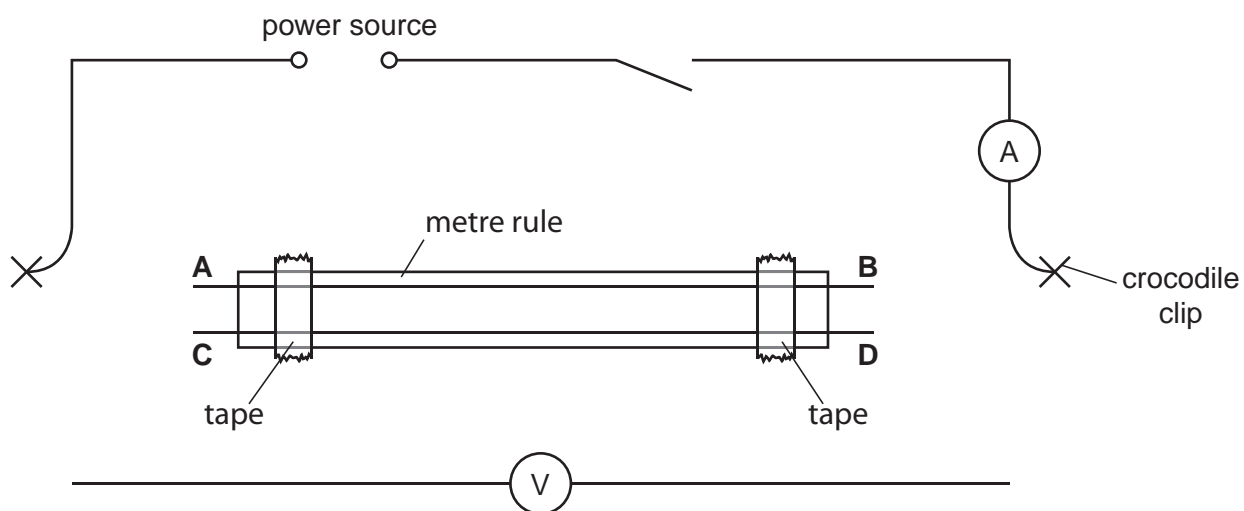

Fig. 3.2
- (vi) Sufficient connecting leads to set up the circuit shown in Fig. 3.2.
- (vii) Two crocodile clips connected as shown in Fig. 3.2.
2. The apparatus must be set out for the candidates as shown in Fig. 3.2.
Check that the apparatus is set out as shown in Fig. 3.2.